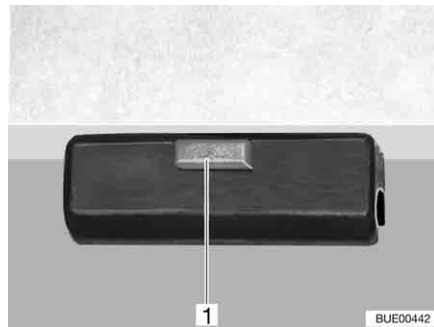

Fig. 111 Lock
- Release the lock (Fig. 111,1) on the table top.